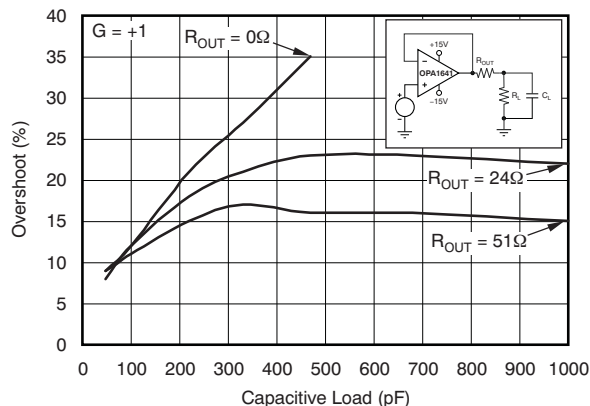
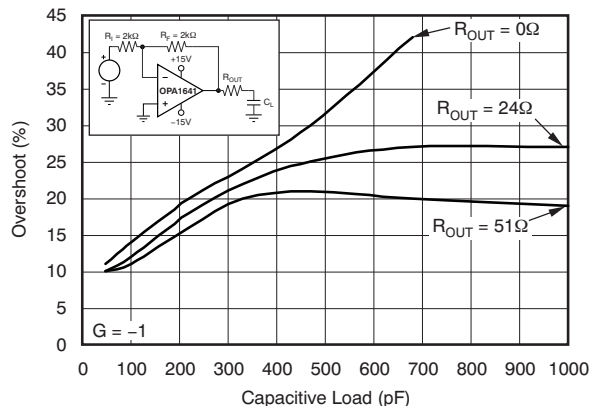

Figure 19. Small-Signal Overshoot vs Capacitive Load (100-mV Output Step)
Figure 20. Small-Signal Overshoot vs Capacitive Load (100-mV Output Step)
(1) Full power bandwidth = $SR/(2\pi \times V_P)$, where SR = slew rate.
(2) See Figure 19 and Figure 20.